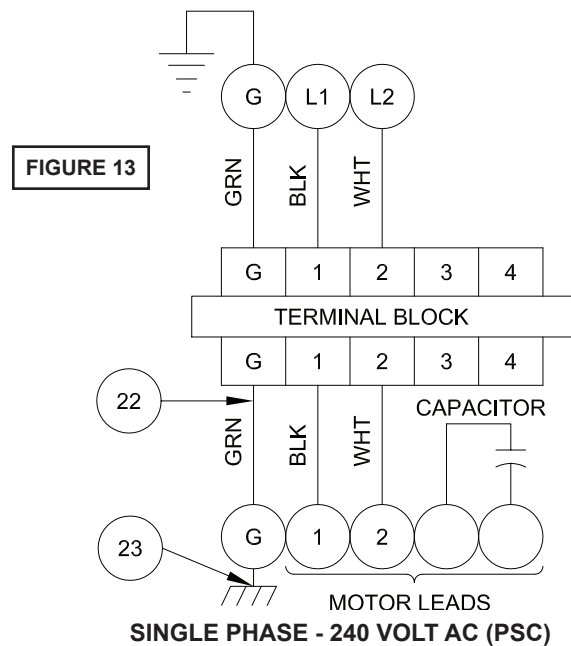

FIGURE 13
DO NOT use wire nuts. Slip motor leads and ground wire into fiberglass sleeve. Lower motor housing (6) down onto seal plate (5) while aligning holes and stringing motor leads through the cord entry bore. (Slipping cord inside a 1 ft. length of .5" conduit makes this easier). Place socket head cap screws (47) through seal plate (5) into motor housing (6) and torque to 60 in-lbs. Reconnect motor leads to the underside of the terminal block (21) in Figure 13. Note that the pins are numbered underneath the terminal block. Place o-ring (20) into groove in terminal block and lubricate with dielectric oil. Press the